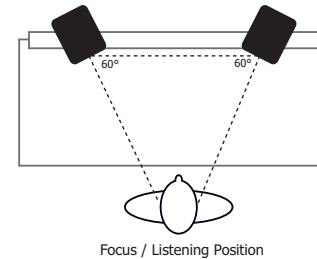

Figure 3
• *Near-Field Configuration* – In a control room situation, the monitors are often times placed on the meter bridge or in a close-field listening position. Initial placement starts by measuring out a simple equilateral triangle (all three sides equal in length) with the apex at the center of the listening position as an "overlay" for the stereo installation. In this configuration, the Left and Right monitors are each placed at a  $60^\circ$  angle, equidistant from the listening position. (Figure 3)